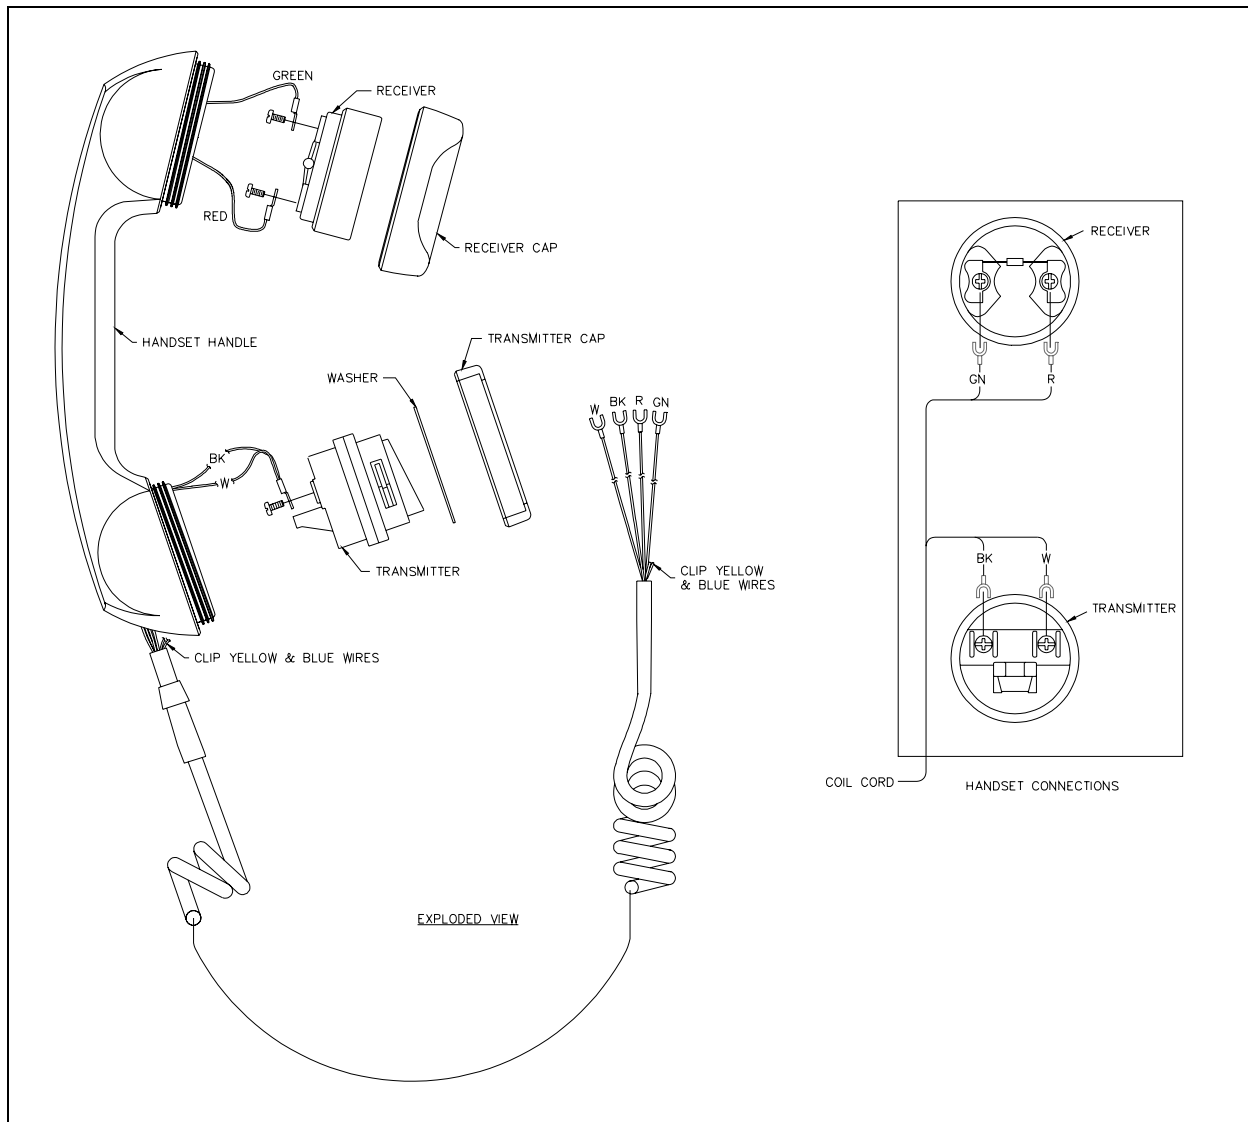

Figure 1. Handset Assembly
5. Remove the lower cap (transmitter cap) from the handset. Pull out the transmitter, loosen the screws holding the wires and disconnect the black and white wires. Set aside for re-assembly. Make note of the orientation of the transmitter. Refer to Figure 1.